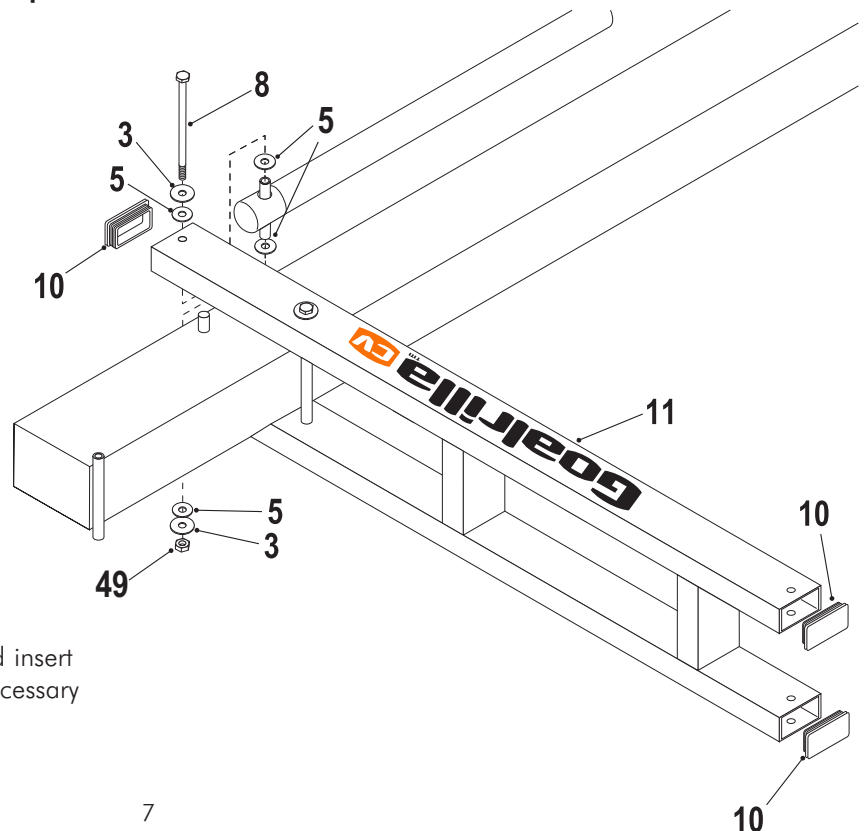

Figure 6
6. Secure Actuator (#16) to Lower Arm (#11) using one bolt (#8), two flatwashers (#3), four plastic washers (#5) and one thin locknut (#49). See Figure 6. Tighten both bolts (#8) snug but, do not over tighten. Board Arms must pivot freely.